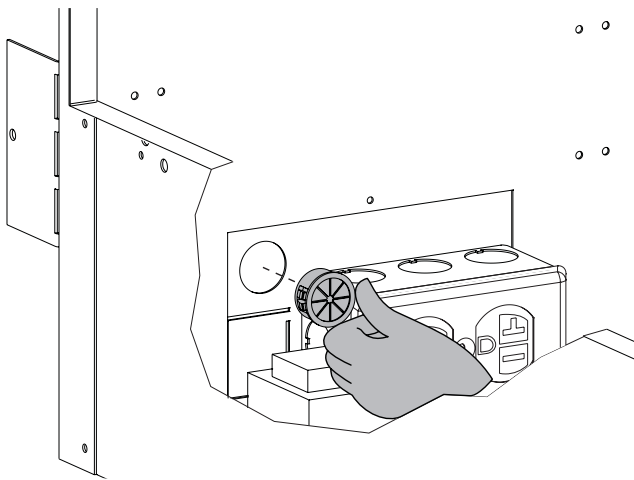
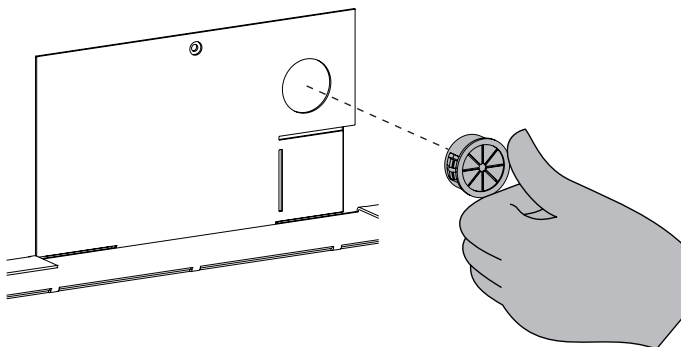

Figure 44
Figure 45
13. Install the provided plastic bushing in the opening where the wires exit the fireplace. See Figure 44 (left side), or Figure 45 (right side).